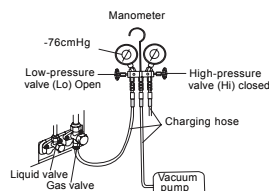

Fig.10
8. Tighten lid of low pressure valve. (As shown in Fig.10)